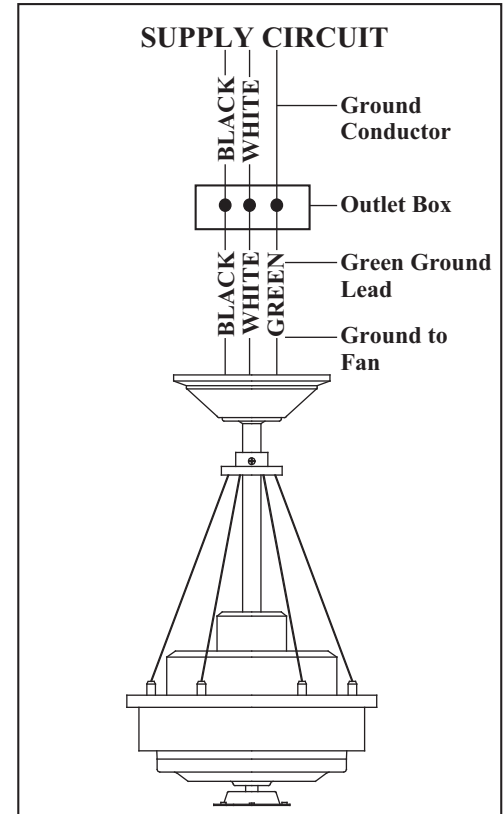

Figure 10
1. Connect the fan supply (black) wire to the black household supply wire as shown in Figure 10.